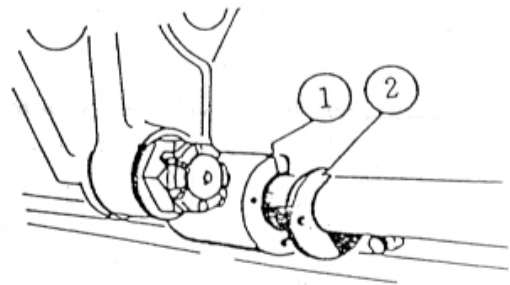

Fig.55
8.9.1 Replace guide bushing(Fig 55)
2. Remove holder (Fig 55/2)
3. Disassemble the blade by sliding and guide bushing (Fig55/1)